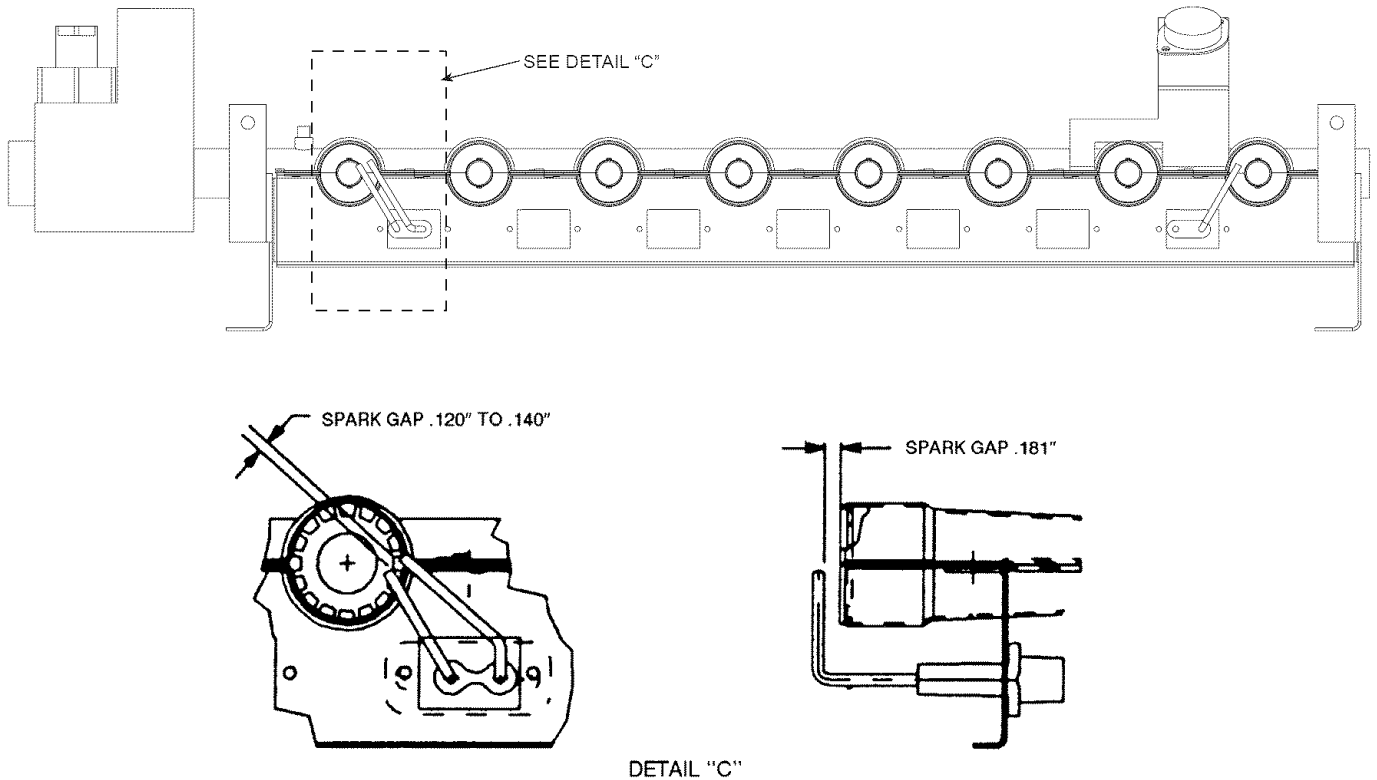

Fig. 47 — Spark Gap Adjustment (48PG Only)
4. Adjust spark gap. See Fig. 47.